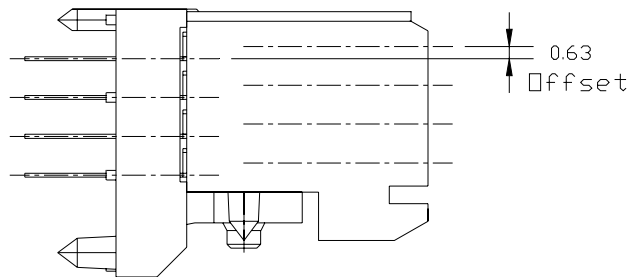

Figure 5: Vertical solder to board receptacle offset
- The solder tail on the vertical solder to board receptacle is offset relative to the mating contact window. This offset distance, 0.63 mm, is shown in Fig. 5.